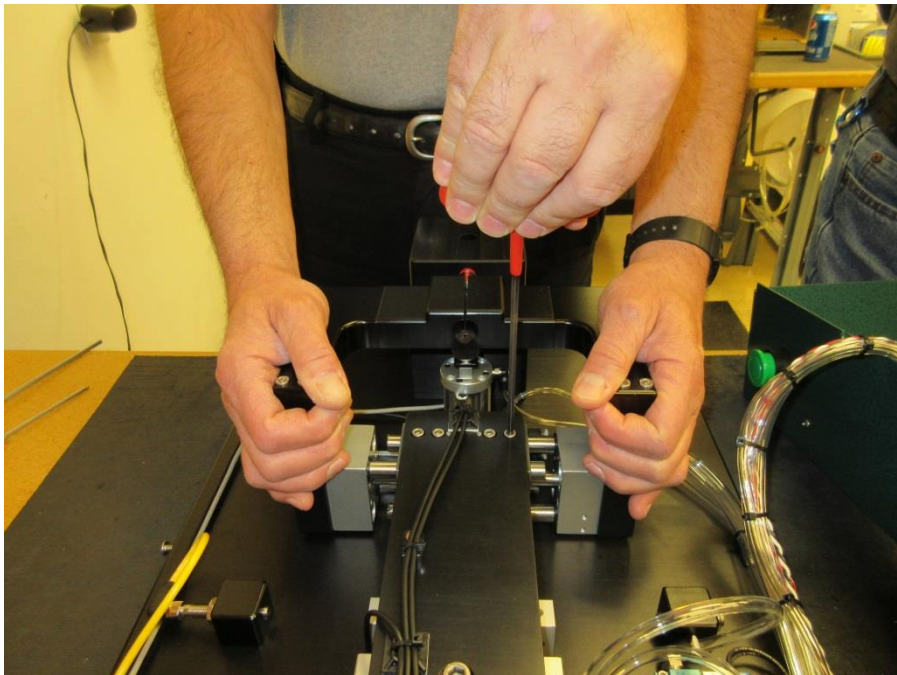

Figure 31 – Holding the gripper in place and tightening the mounting bolts
- **Note:** This step will require two (2) people. Squeeze the jaws firmly together and pull the jaws forward until the tubing seats on the barb of the fitting. While one person holds the gripper in place, the other tightens the four (4) bolts on top of the gripper with the 5/32” Allen wrench. (Figure 31)